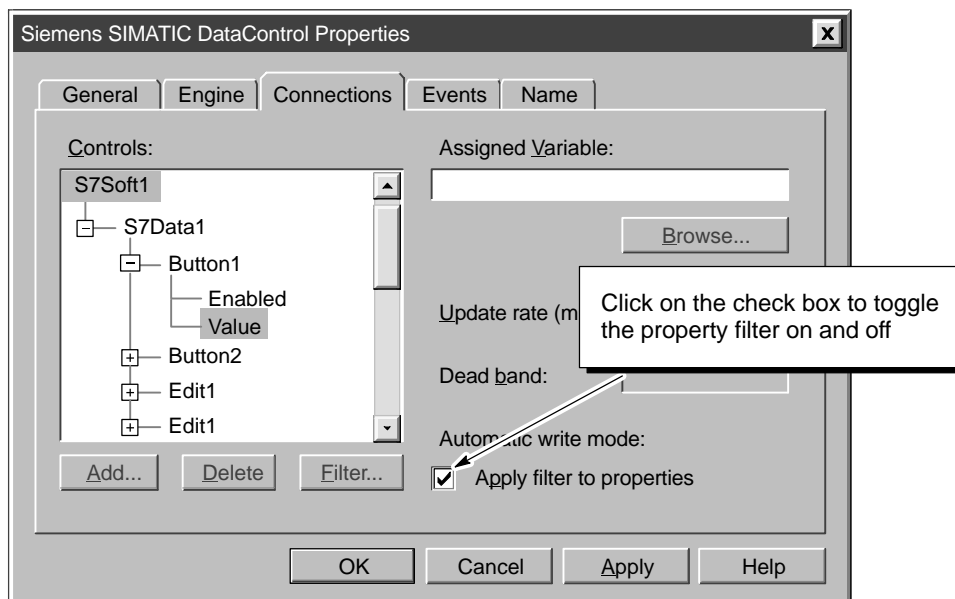

Figure 5-11 Data Control Properties (Connections Tab)
4. As shown in Figure 5-11, select the “Apply filter to properties” check box to display only the properties listed in the filter.